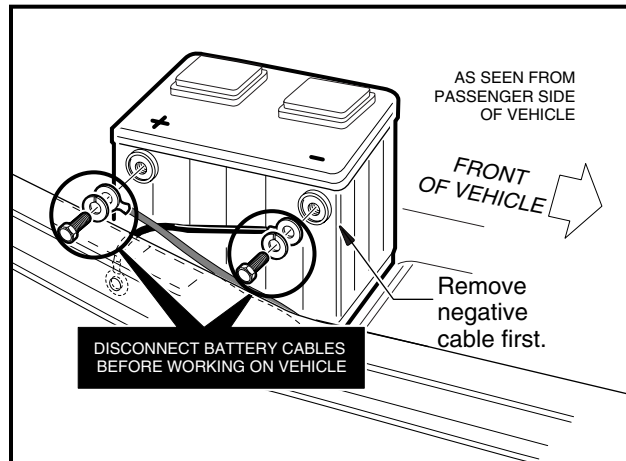

Figure 1-1 Gasoline Vehicle
- Disconnect battery cables, negative (–) cable first (Figure 1-1, Page 1-3).